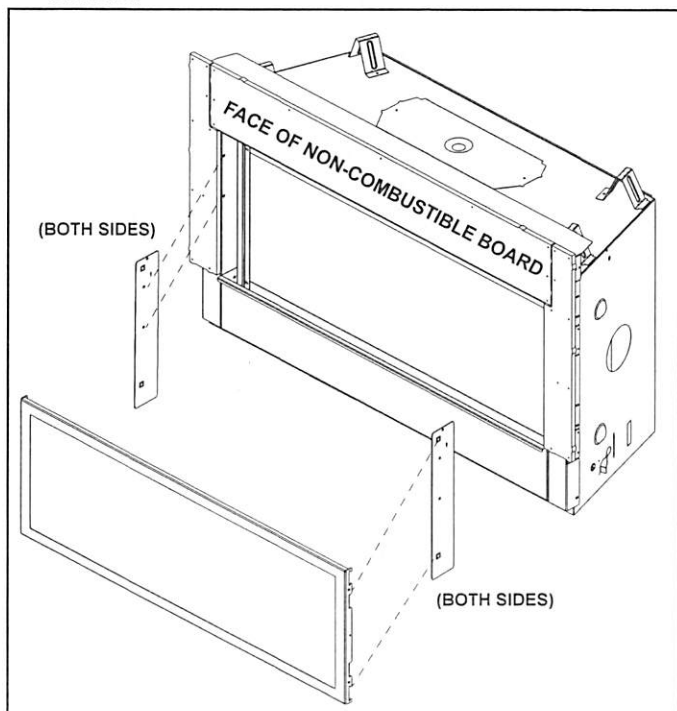
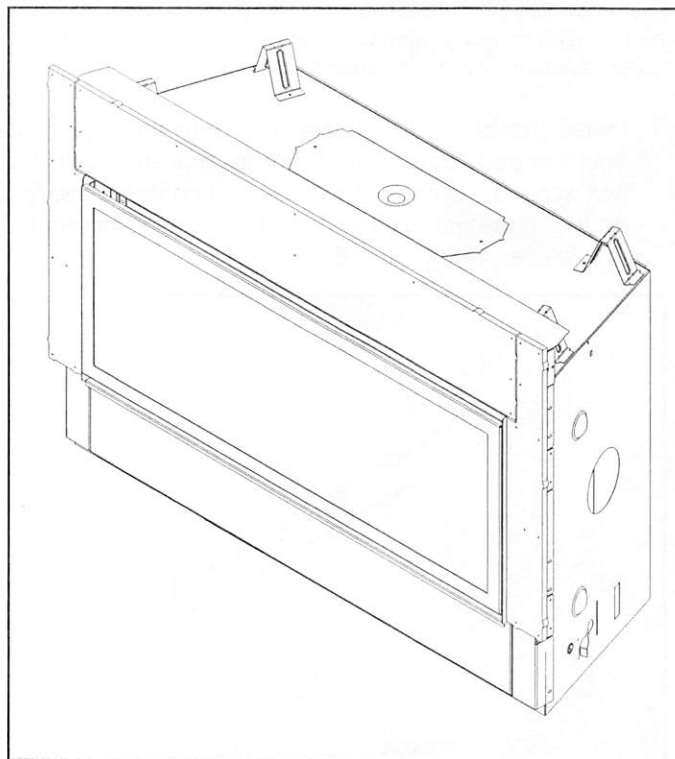

Figure 9. Install Auxiliary Hanging Brackets
Figure 10. CFT Decorative Front Installed Without Outer Decorative Front Trim
2. Install the left auxiliary hanging bracket by positioning the arrow upward. Install a hex screw in each mounting hole. See Figure 9. Repeat for right auxiliary hanging bracket.
3. Install the decorative front assembly by hanging it from the four tabs located on the auxiliary brackets. There are two tabs on the left side and two tabs on the right side. See Figure 9 and Figure 10.